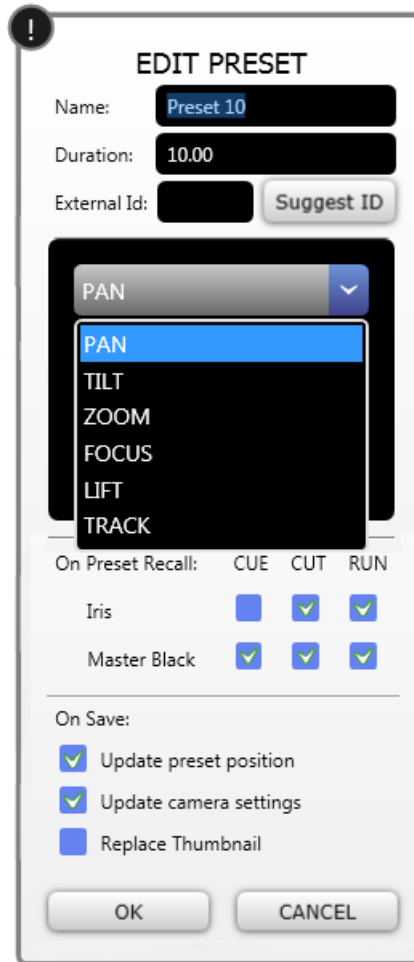

Figure 27 - EDIT PRESET Dialog Box for Furio, with Axis List Expanded
- a. In the axis list, tap the name of an axis for which you want to change acceleration rate and/or deceleration rate (Figure 27).